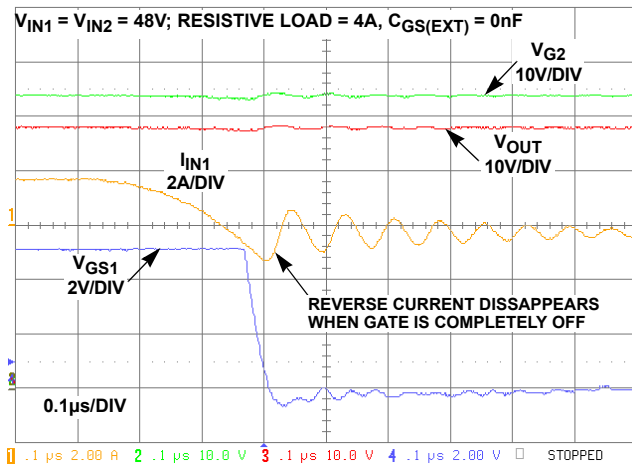

FIGURE 21. FAST SPEED TURN-OFF (MOSFET WITH QTOT = 8.4nC)
tDELAY(HS) is the High Speed Comparator internal worst-case time delay. The setup in Figure 17 can be used to perform the Input dead-short test; a pulse generator is connected between Gate-Source of QSHORT1 (use pulse mode single shot, set the frequency to <10Hz and pulse width of approximately 10ms, tRISE = 1μs). Follow steps 1 through 5 in the two feed parallel operation section. Make sure that both feeds operate in parallel current sharing mode. Proceed with the short test by applying the single pulse to the gate of QSHORT1. Once turned on, QSHORT1 shorts VIN1 causing it to fall quickly (in less than 10μs). Figures 21, 22 and 23 show the results for different combinations of CGS1 and load current. Make sure to connect the VIN1 shorting-MOSFET terminals as close as possible to the VIN-GND (J4 to J6) terminals on the EVAL board to minimize lead impedance and reduce parasitic ringing.